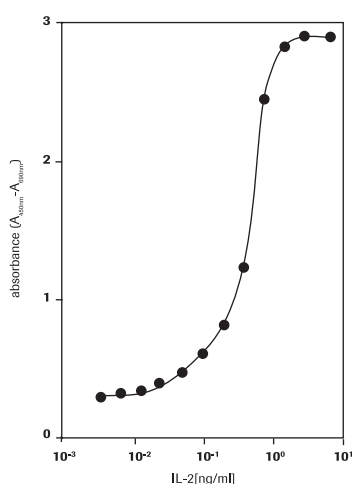

Figure 1: Measurement of proliferation of CTLL-2 cells in response to human IL-2.
- The measurement of cell proliferation in response to growth factors, cytokines, mitogens and nutrients (see figure 1).
Determination of the activity of human interleukin-2 (IL-2) on the mouse T cell line CTLL-2 (see figure 1).